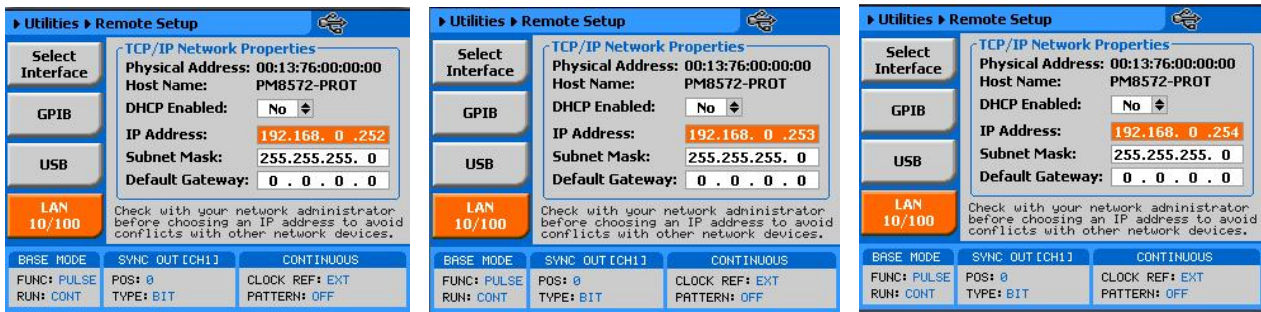

Figure 3-30: IP Address Setup Example (from right to left) Master and two Slaves
4. Turn on the instruments and set all of them up to operate from a LAN interface. Information how to set up the waveform generator to operate from a LAN interface is given in the instruments user manual. An example of mater and slave IP address setting is shown in Figure 3-30. The master was assigned the highest IP address ...254 and the two slaves were assigned ...253 and ...252, respectively.